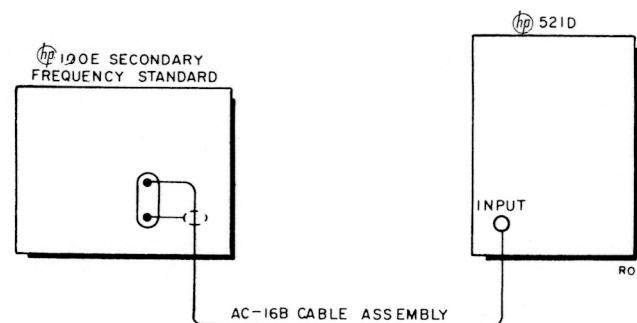

Figure 4-2. Equipment Setup for Setting Crystal Time Base Oscillator Against a Local Standard
- 2) Connect 100-kc output from frequency standard such as ^{hp} Model 100E to 521 INPUT connector. See Figure 4-2.